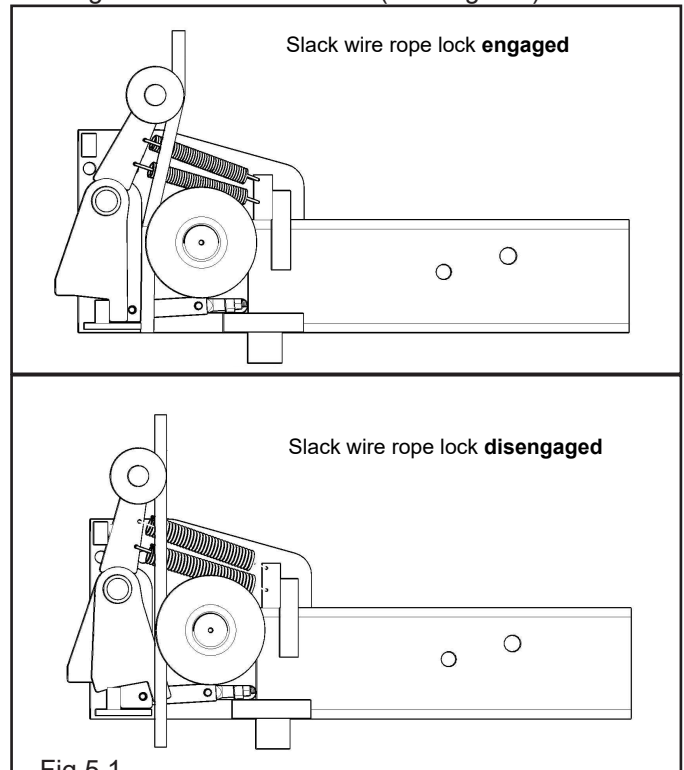

Fig 5.1
2. Manually raise the Cross Beams until the Primary Safety Locks engage and rest on the lock position second down from the top of the Ladder or approximately 700mm off the ground. It is important that the SLACK SAFETY LOCK IS CLEARED. The Slack Safety Lock must never rest on the Safety Ladder. To prevent this, manually hold the Slack Safety in the disengaged position while lowering the crossbeams ends. (See Fig. 5.1)